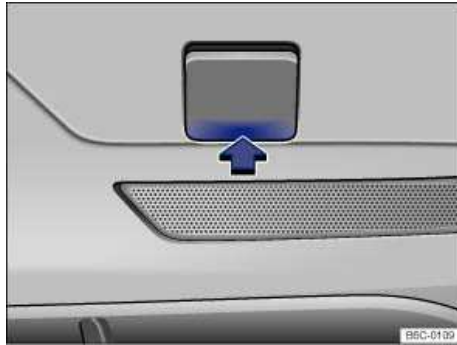

Fig. 187 In the right rear bumper: Removing the cover.
- Push on the cover at the lower area ⇒ fig. 187 (arrow) so that it pops out.
- Position the lower tab of the cover ⇒ fig. 187 into the opening in the bumper and carefully push on the upper area of the cover until it has locked in place.